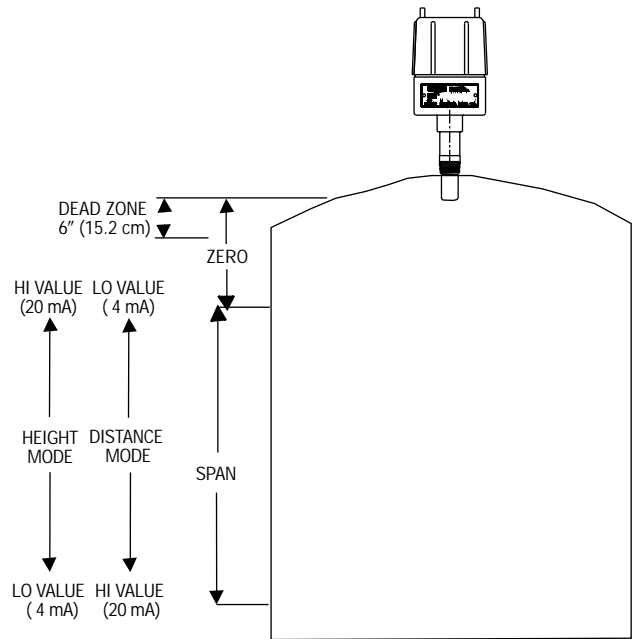

FIGURE 2
The system range equals the zero value plus the span value measured in inches. See figure 2.
3. Set "P1" jumper for height distance mode (see figure 2).